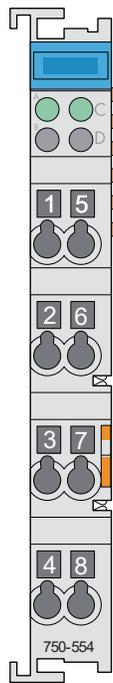

Figure 12: 2-channel analog output module
4. Connect the connection cables to the connection terminal for analog outputs (Table 5 and Figure 12 below).